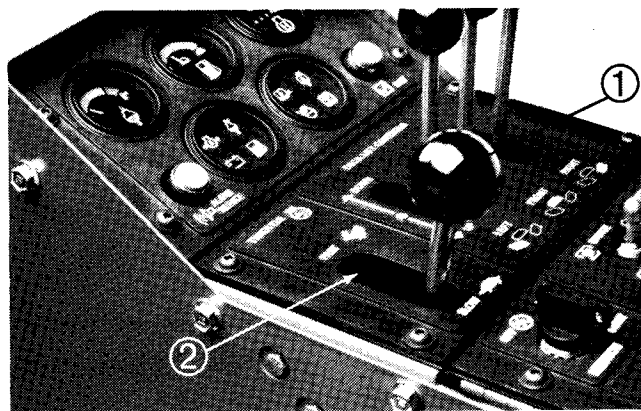
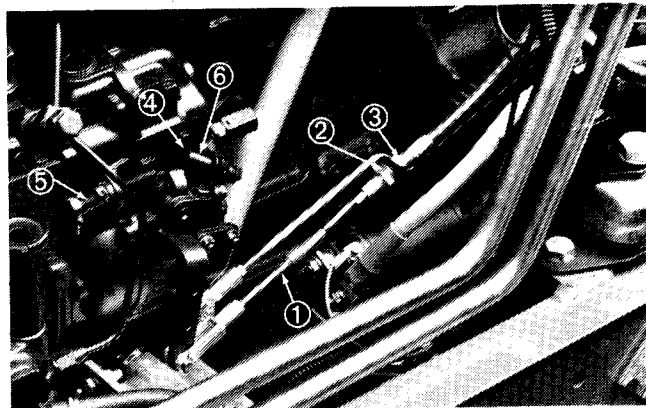

Figure 21
Figure 23
The throttle lever must not touch end of the slot during full range of motion from idle (SLOW) to full engine rpm (FAST) (Fig. 21).
2. Loosen jam nut and tighten adjusting nut (Fig. 23) so governor lever touches low and high speed set bolts without throttle lever touching end of slot at either FAST or SLOW position (Fig. 21).